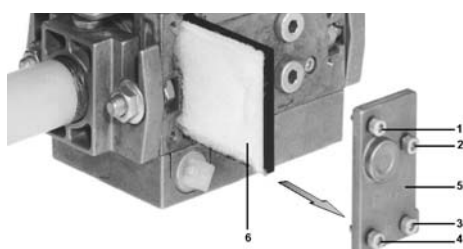

Fig. 42
- 2 Remove screws 1 ÷ 4 using the Allen key n. 3 and remove filter cover 5 in Fig. 42.